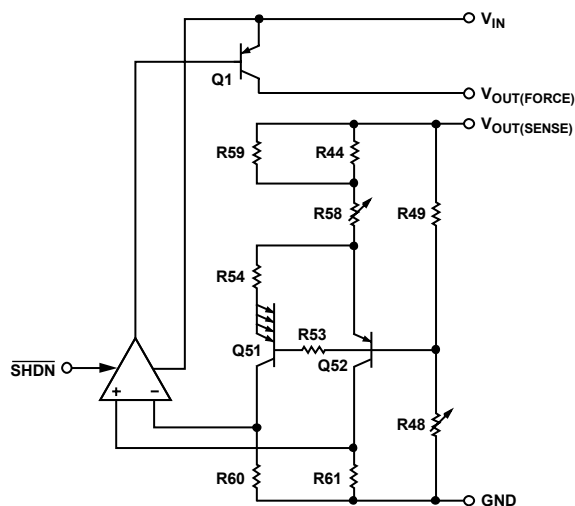

Figure 17. Simplified Schematic
Band gap references are the high performance solution for low supply voltage and low power voltage reference applications, and the ADR318 is no exception. The uniqueness of this lies in its architecture. By observing Figure 17, the ideal zero temperature coefficient (TC) band gap voltage is referenced to the output, not to ground. Therefore, if noise exists on the ground line, it is greatly attenuated on V_{OUT} . The band gap cell consists of the PNP pair, Q51 and Q52, running at unequal current densities. The difference in voltage base emitter (V_{BE}) results in a voltage with a positive TC that is amplified by the ratio of $2 \times (R58/R54)$. This proportional-to-absolute temperature (PTAT) voltage, combined with V_{BE} Q51 and V_{BE} Q52, produces the stable band gap voltage.